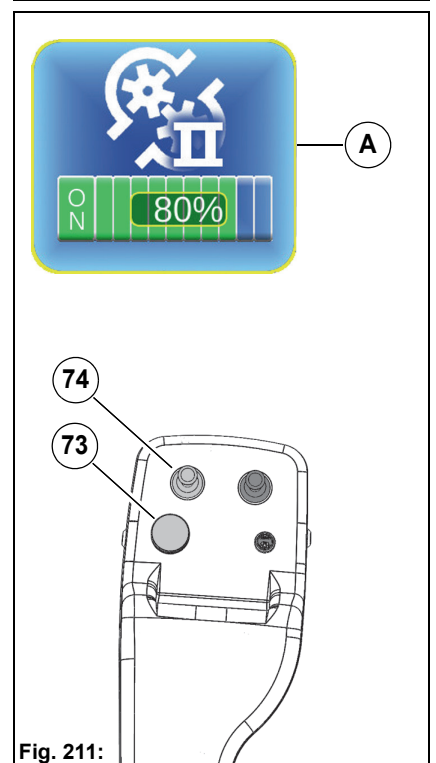

Fig. 211:
1. Use the turn-push knob **Fig. 211-73** in the working menu to switch on the hydraulic circuit II for rear attachments **Fig. 211-A** and to set the desired speed.